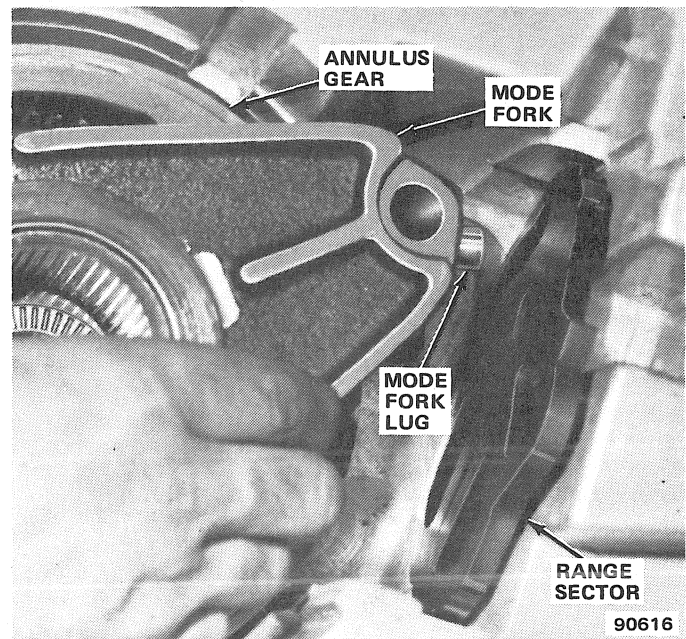

Fig. 2D-21 Annulus Gear and Mode Fork Removal/Installation
(29) Inspect lockplate (fig. 2D-24). If lockplate is loose or is worn, broken or cracked, remove lockplate. Refer to replacement procedure in Subassembly Overhaul section.
(30) Remove output shaft seals from front and rear case seal bores.